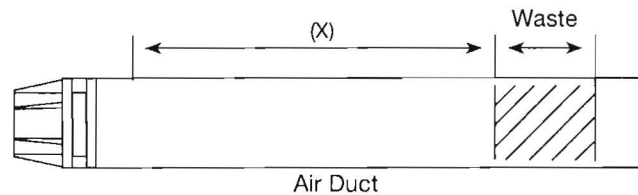

Fig. 4
3. Taking the air duct, mark dimension 'X' as shown (Fig. 4). Measure the length of waste material, and transfer the dimension to the flue duct (Fig. 4).